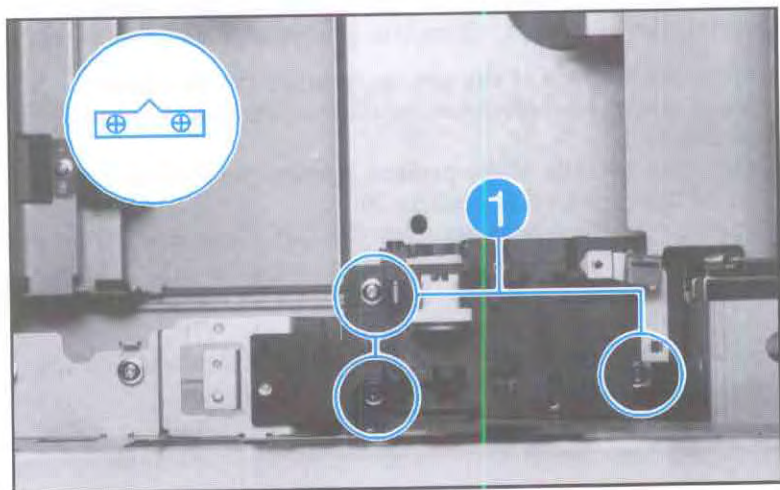

Figure 6-37. Left Block (continued)
13. Remove the (3) screws securing the Left Block (see Figure 6-37, callout 1).